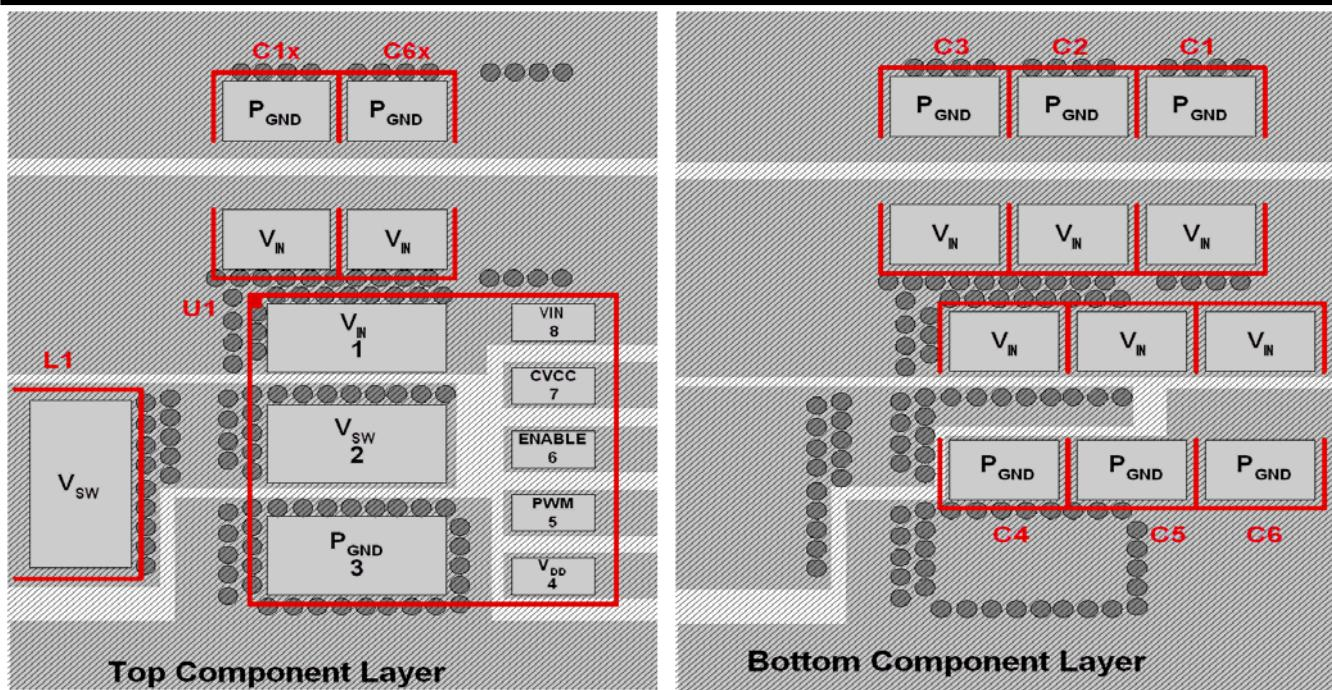

Figure 13 Top & Bottom Component and Via Placement (Topside, Transparent view down)
- Placement of the ceramic input capacitors is critical to optimize switching performance. In cases where there is a heatsink on the case of iP2005A, place all six ceramic capacitors right underneath the iP2005A footprint (see Figure 13 Bottom Component Layer). In cases where there is not heatsink, C1 and C6 on the bottom layer may be moved to the C1x and C6x locations (respectively) on the top component layer (see Figure 13 Top Component Layer). In both cases, C2 – C5 need to be placed right underneath the iP2005A PCB footprint.